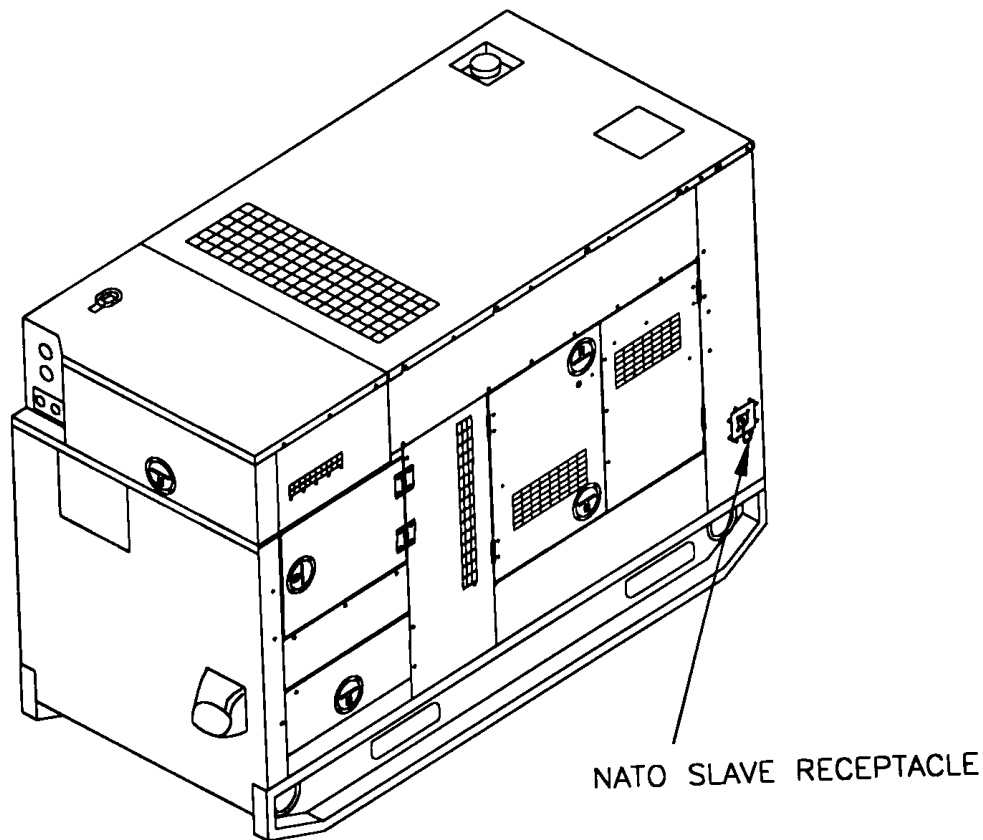

FIGURE 2-13. NATO SLAVE RECEPTACLE
2.21.1 General. The NATO SLAVE RECEPTACLE (Figure 2-13) can be used to start the generator set when batteries are discharged.
- a. Connect one end of NATO/SLAVE RECEPTACLE cable to fully charged 24 VDC system and other end to discharged generator set's NATO/SLAVE RECEPTACLE (Figure 2-13).